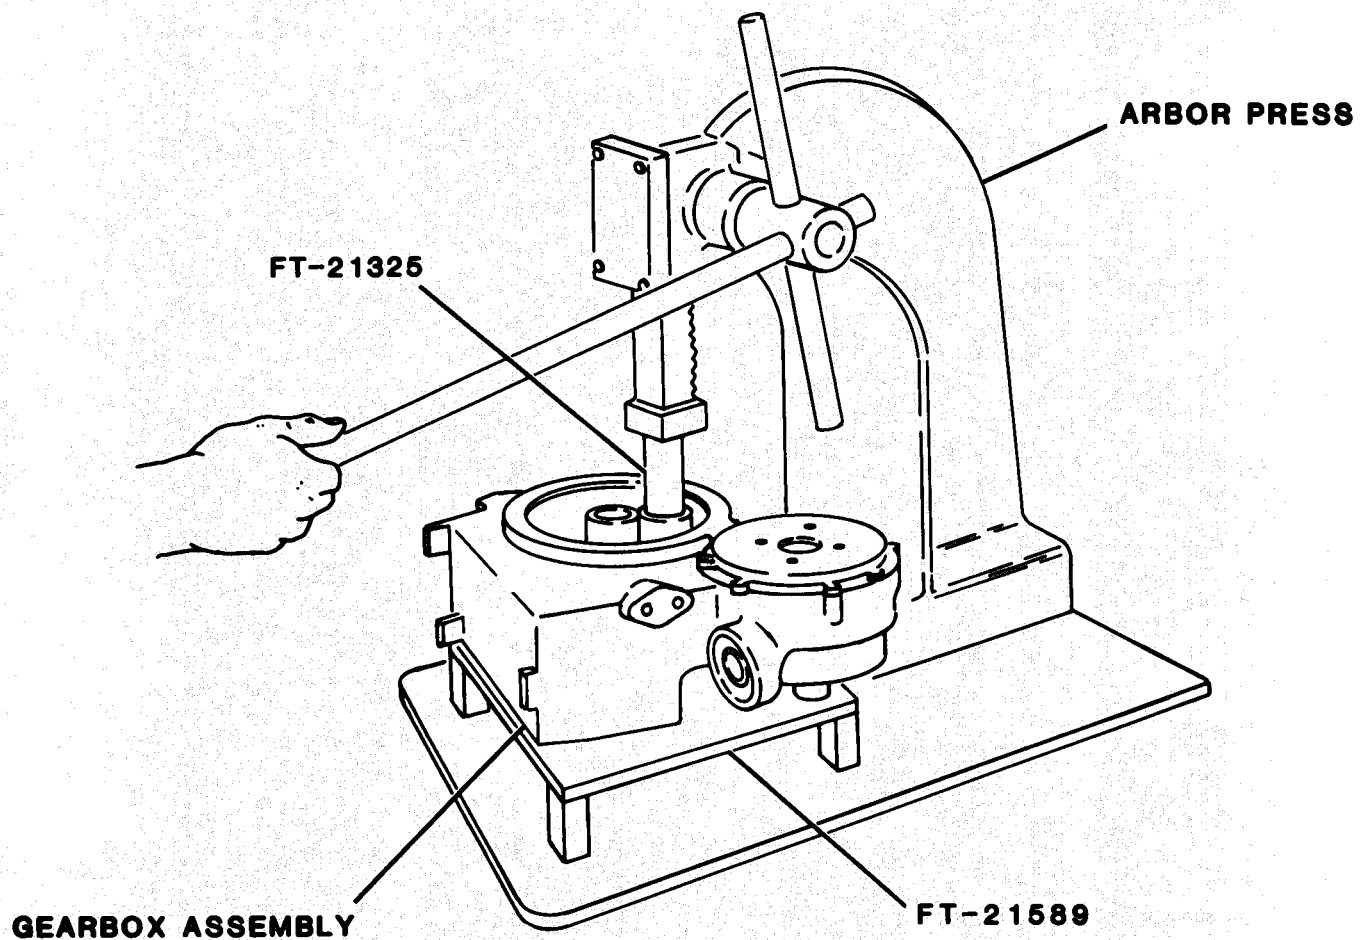

Figure 8-22. Removing Bearing and Output Spur Gear
(21) Place gearbox assembly on gearbox support base, fabricated tool FT-21589. Place gearbox assembly plus fixture on arbor press. Using bearing removal tool, fabricated tool FT-21325, press generator shouldered shaft (43) through bearing (46) and output spur gear (47). Remove assembly from arbor press. See Figure 8-22.
(22) Remove bearing (48) from generator shouldered shaft (43) using bearing puller. Discard bearing.
(23) Remove retaining ring (49) from generator shouldered shaft.
(24) Remove output spur gear (47) and bearing (46) from gearbox housing. Discard bearing.
(25) Remove bolts (50) and washers (51) securing bearing retainer (52) to gearbox housing (59). Remove bearing retainer (52), pinion spur gear assembly (53), spring washer (54), and shim (55).
(26) Using puller set, remove bearings (56) and (57) from pinion spur gear (58). Discard bearings.